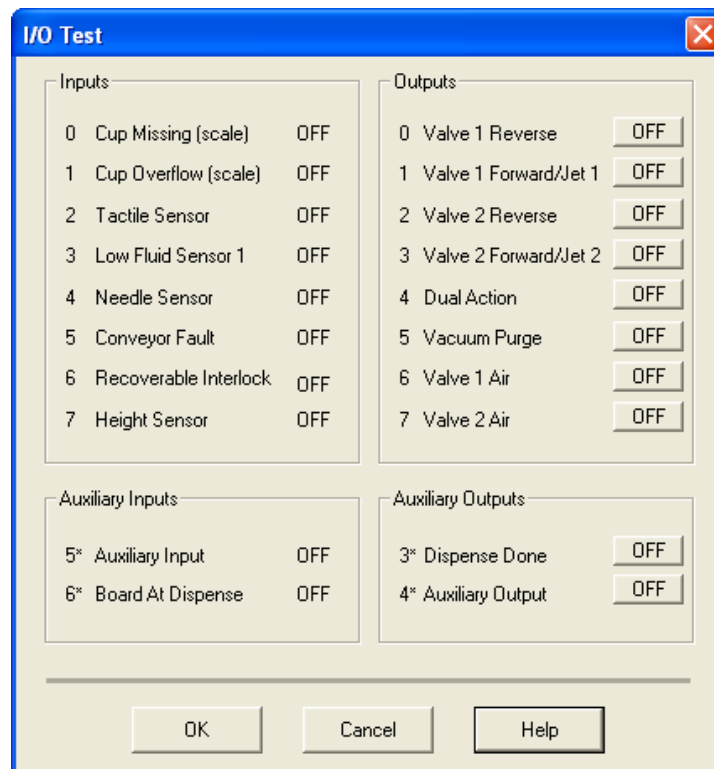

Figure 3-18 FmNT I/O Test Dialog Box (typical)
4. In the Dispenser I/O Test dialog box, locate the **Valve Forward** output. See Figure 3-18.
7. In the Dispenser I/O Test dialog box, locate the **Valve Reverse** output. See Figure 3-18.